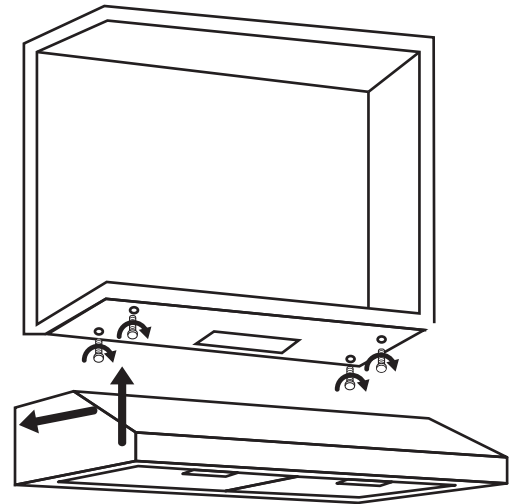

Figure 4
- Using measurements provided on Page 7, measure and drill 4 holes into bottom of cabinet (see Figure 4).
- Align range hood to the holes in the bottom of the cabinet and screw in using the supplied screws (see Figure 4).